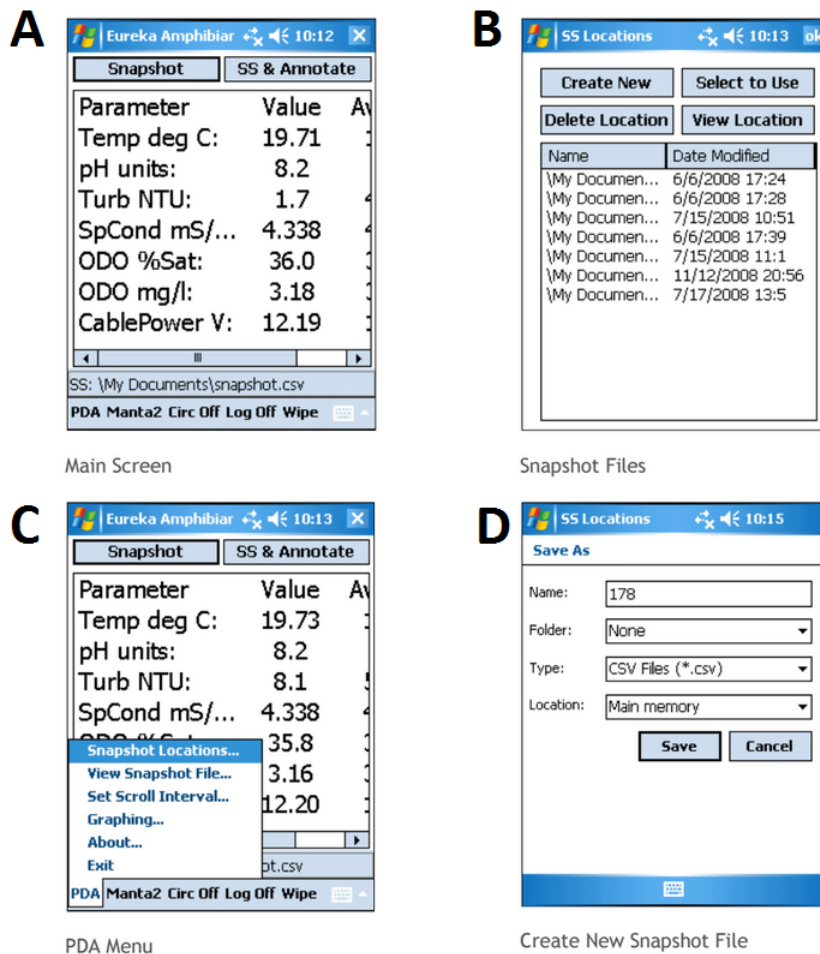

Figure 1: Amphibian Working Screens
**10.1 Connecting the Manta.** Connect and power on the Manta to the Amphibian Portable PC as before. Adjust screen brightness using short-cut buttons **arrow up + P3** and **arrow up + P4**. When you open the `Amp_2.2.6`, the Main screen will appear(A) (Figure 1). This is where you will see data readings. To log, or store, one line of data take a “snapshot” with the top left button (A). To locate snapshots, open the PDA menu in the bottom left corner and select “snapshot locations”(B). In the SS locations screen (C) you can edit your files or a create new one. When creatign a new file (D), annotate using the guidelines in 10.5.To see data presented graphically, open the PDA menu and select “graphing” (B). To exit the program, again open the PDA menu and select “Exit.”